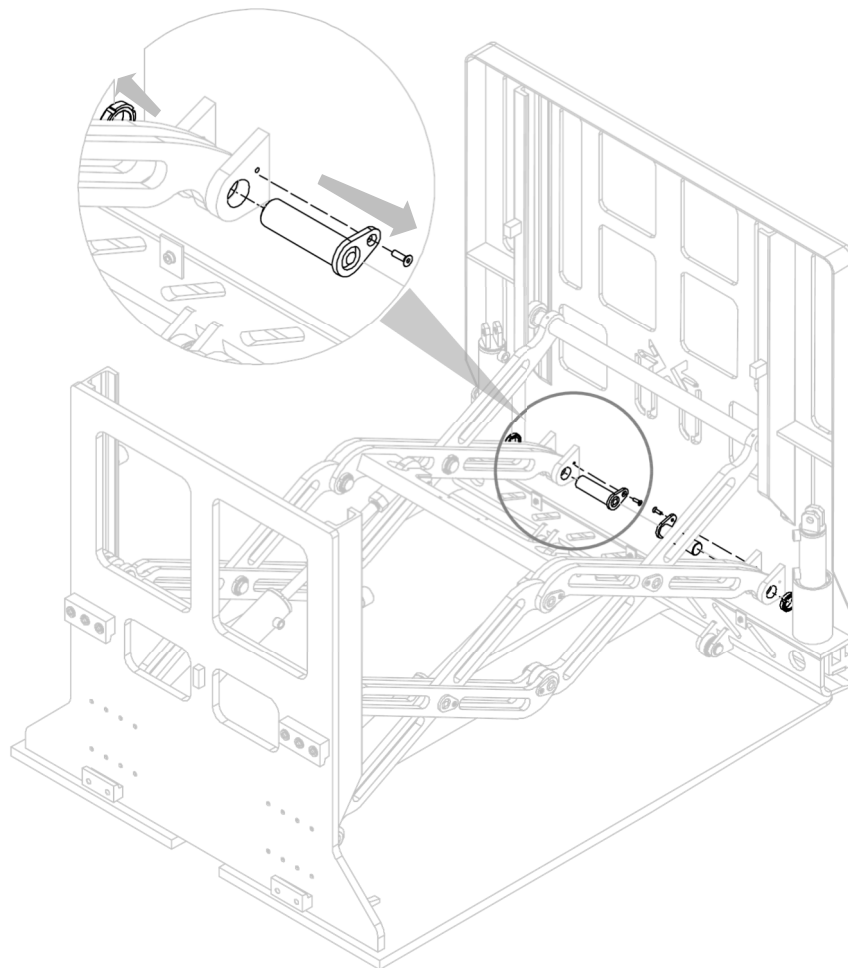

Figure 18
2. Remove the pins (with the relative screws and ring nuts) indicated in *Figure 18*.